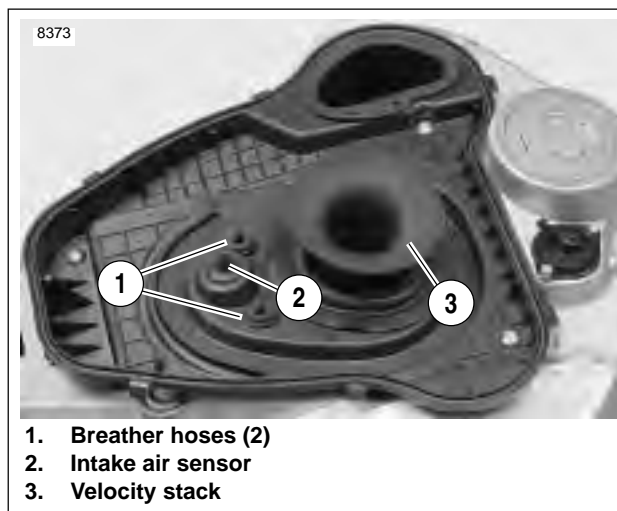

Figure 1-39. Airbox Baseplate Assembly
3. See Figure 1-39. Make sure two crankcase breather hoses (1) and intake air sensor (2) are captured in baseplate behind velocity stack (3).